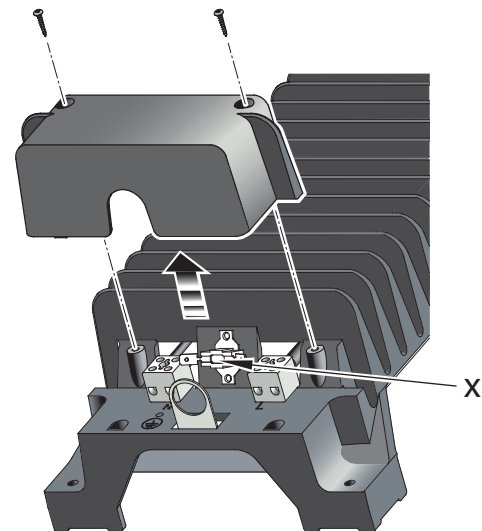

Fig. 2
The Terminal Cover Casting can be removed to access the terminals, by removing the 2 screws fixing the cover - see Fig. 2.
3. Remove the terminal cover to access the thermal cut-out - see Fig. 2.
4. Press the reset tab located in the centre of the cut-out (cut-out clicks when reset) - see 'x' in Fig. 2.